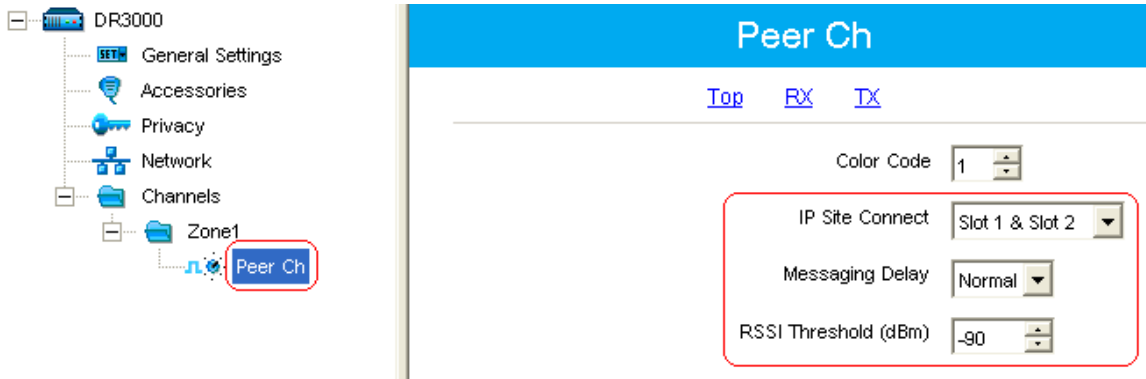

Figure 6.7
- 8) Navigate to each of the repeater channels where one or both of the slots are required to be 'Wide Area' and specify the IP Site Connect option. For the example shown in Figure 6.7 below, a single repeater channel is defined and both its slots are 'Wide Area'.
- 9) Leave the Messaging Delay at its default value of 'Normal' (see Figure 6.7 below).
- 10) If the Peer repeater has a dedicated RF channel on which to operate (i.e. it is not sharing the channel with another system), then it's strongly recommended that the RSSI Threshold be increased from its default value of -115dBm to -90dBm (see Figure 6.7 below). For further details, refer to section 12.